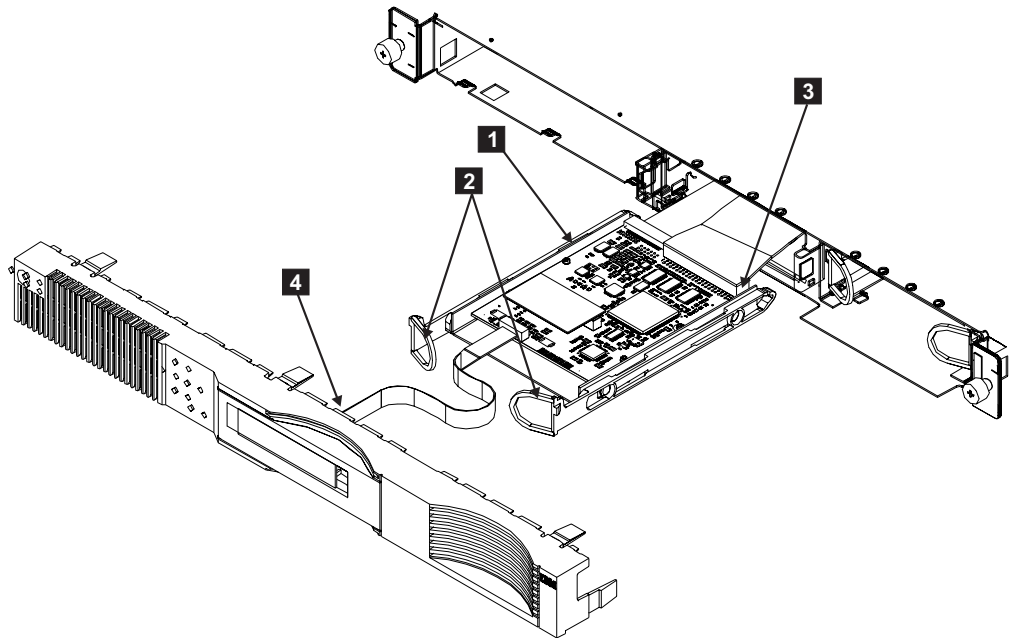

Figure 79. Replacing the SAN Volume Controller 2145-4F2 service controller
1. Carefully push the service controller **1** into the SAN Volume Controller 2145-4F2. See Figure 79.